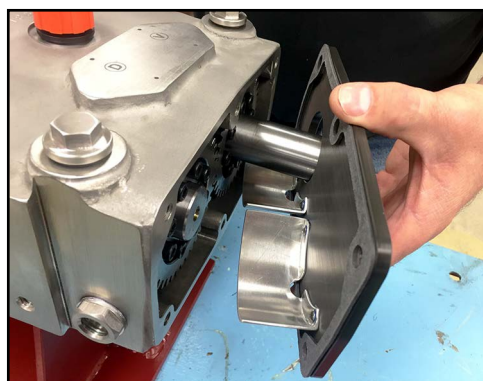

Figure 148 - Remove gear case cover
3. Remove the gear case cover. Discard the cover gasket as shown in Figure 148.